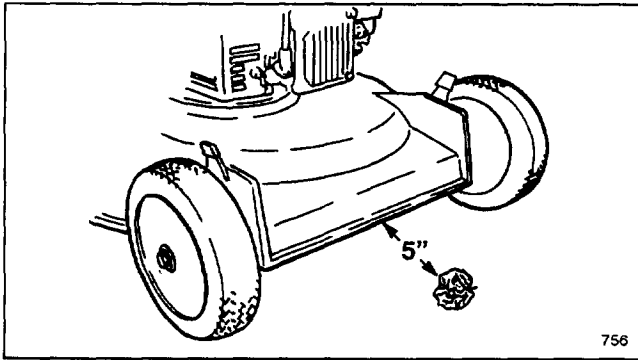

Figure 15
4. Take a half sheet of newspaper and crumple it into a ball small enough to go under the deck (approx. three inches in diameter) (Fig. 15).
5. Place ball of newspaper five inches in front of mower (Fig. 15).